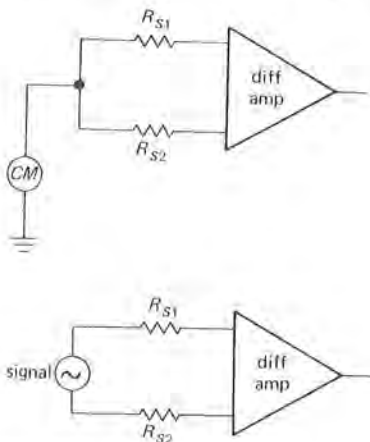

Figure 7.29
0.25 ohm! Furthermore, the source impedance seen at the two terminals has to be matched to 0.0025 ohm in order to attain a CMRR of 100dB. This last result follows from a look at the equivalent circuit (Fig. 7.29). The triangles represent the whole differential amplifier circuit or, in general, any differential or instrumentation amplifier, and R_{S1} and R_{S2} represent the Thévenin source resistances in each leg. For common-mode signals, the overall amplifier circuit includes the two source impedances in series with the input resistors R_1 and R_3 , and so the CMRR now depends on the matching of $R_{S1} + R_1$ with $R_{S2} + R_3$. Obviously the demands this circuit makes on the source impedances as calculated earlier are unreasonable.